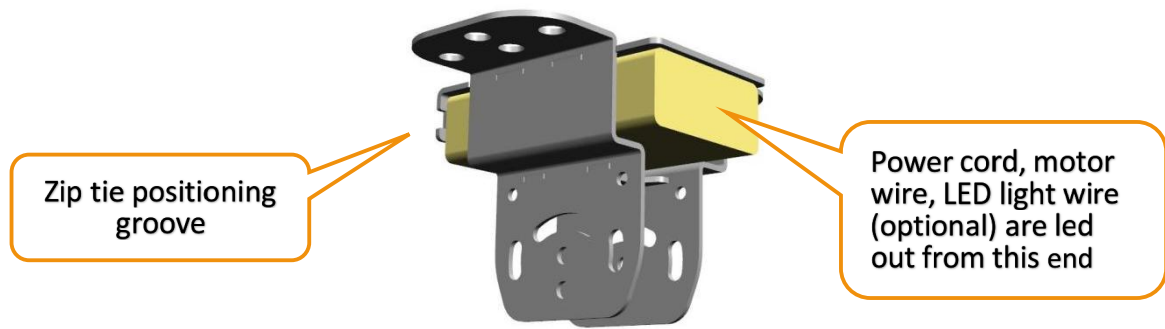

Figure. 2
- ① Insert the controller into the hollow frame of the upper mount. The power cord, motor wire, and LED light wire (optional) of the controller are led out from the end shown in Figure 2
- ② Wrap the controller and wires with the upper mount together with zip tie to prevent the controller from loosening. The tie should be stuck in the positioning groove of the upper mount